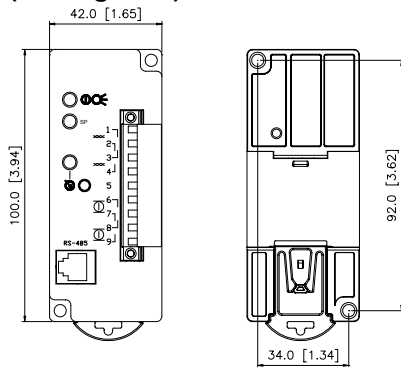

Figure 1
Dimension: (see Figure 1)
3. LED indicator: Figure 1, sequence from top to bottom is Power LED, SP LED and service LED.